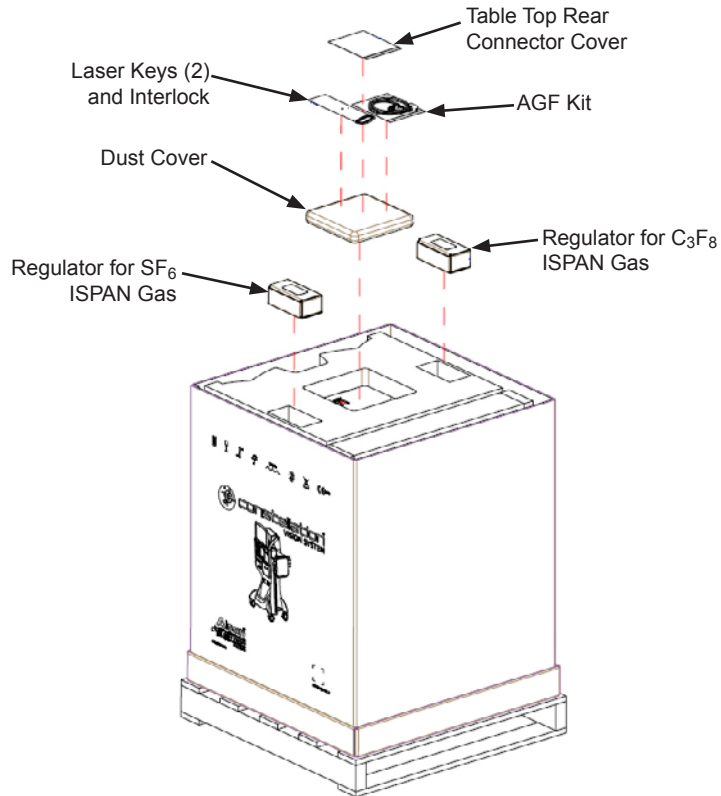

Figure 7-1. Base Console (Boxed) with Accessories
2. Remove accessories (6) from foam insert and set aside (see Figure 7-1).